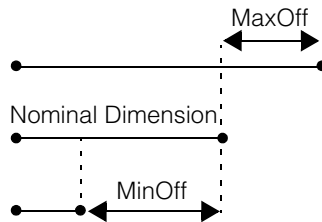

Figure 87. Relative tolerances on the nominal dimension of a segment
- As relative tolerances on the nominal dimension of the segment. In this case the length of the segment is limited between the interval(NomDim-MinOff) and (NomDim+MaxOff) where: MaxOff= maximum offset, MinOff=minimum offset, NomDim = nominal dimension. The limits on the dimension of the segment are illustrated in Figure 87.